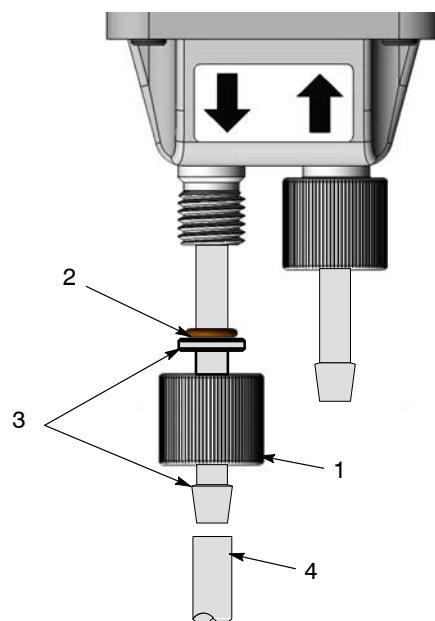

Figure 5 Delivery Tubing Connection to Pump
2. See Figure 5. Remove the rear (outlet) retaining nut (1) and O-ring (2) from the pump.
3. Install the O-ring (3) onto the tubing adapter (3), until it is up against the adapter flange.
6. Push the flexible powder tubing (4) over the barbed end of the adapter.